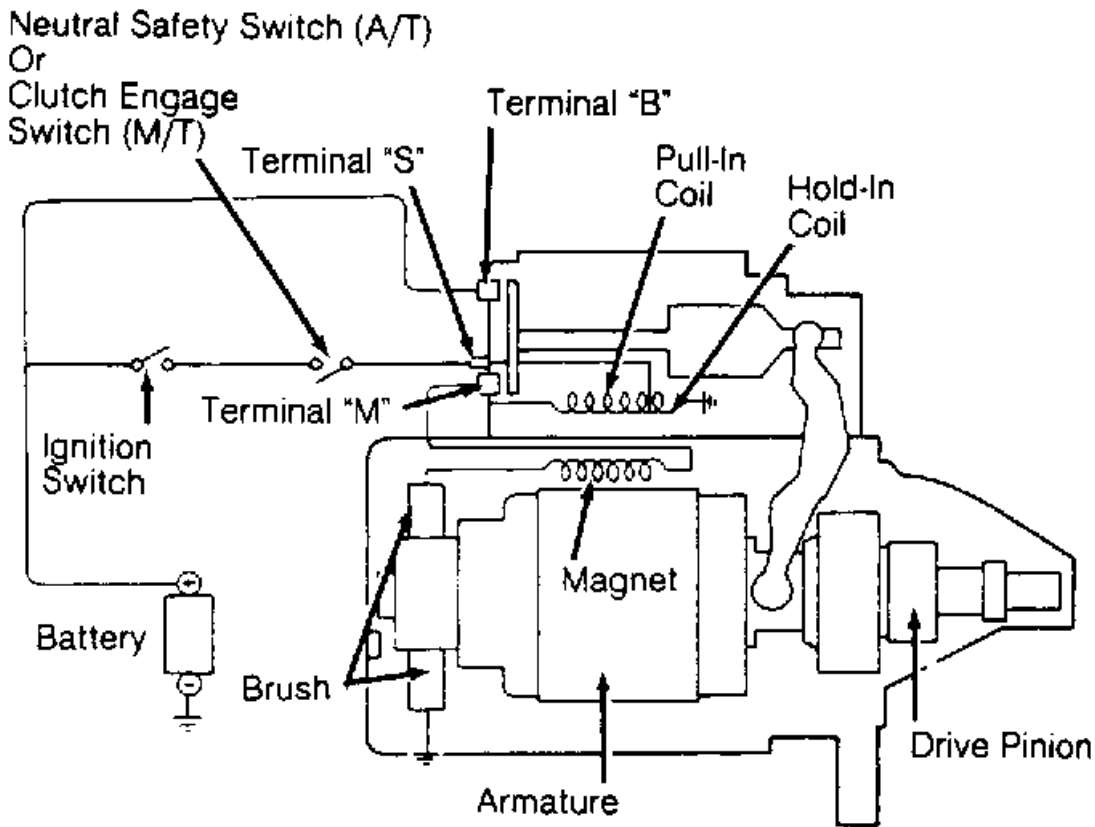

Fig. 1: Starter System Schematic
- Using a digital voltmeter, connect positive voltmeter lead to starter solenoid terminal "S", and negative lead to starter housing. See Fig. 1.
1. Disconnect and ground coil wire from distributor cap to prevent engine from starting. Connect remote starter switch between starter solenoid terminal "S" and battery positive terminal. See Fig. 1 .